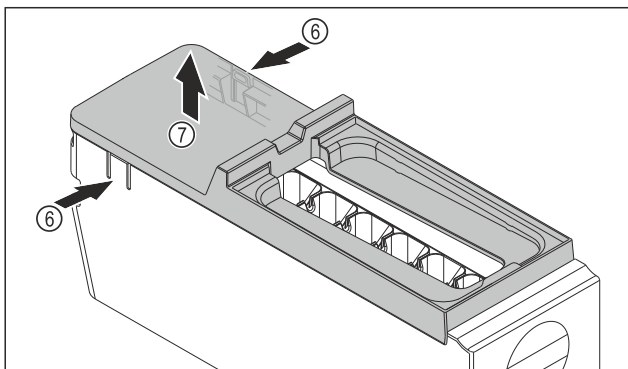

Fig. 213
- ▶ Removing the EasyTwist-Ice body cover: Push the tabs Fig. 213 (6) on both sides of the EasyTwist-Ice body with one hand.
- ▶ Use the other hand to remove the cover Fig. 213 (7) upwards.